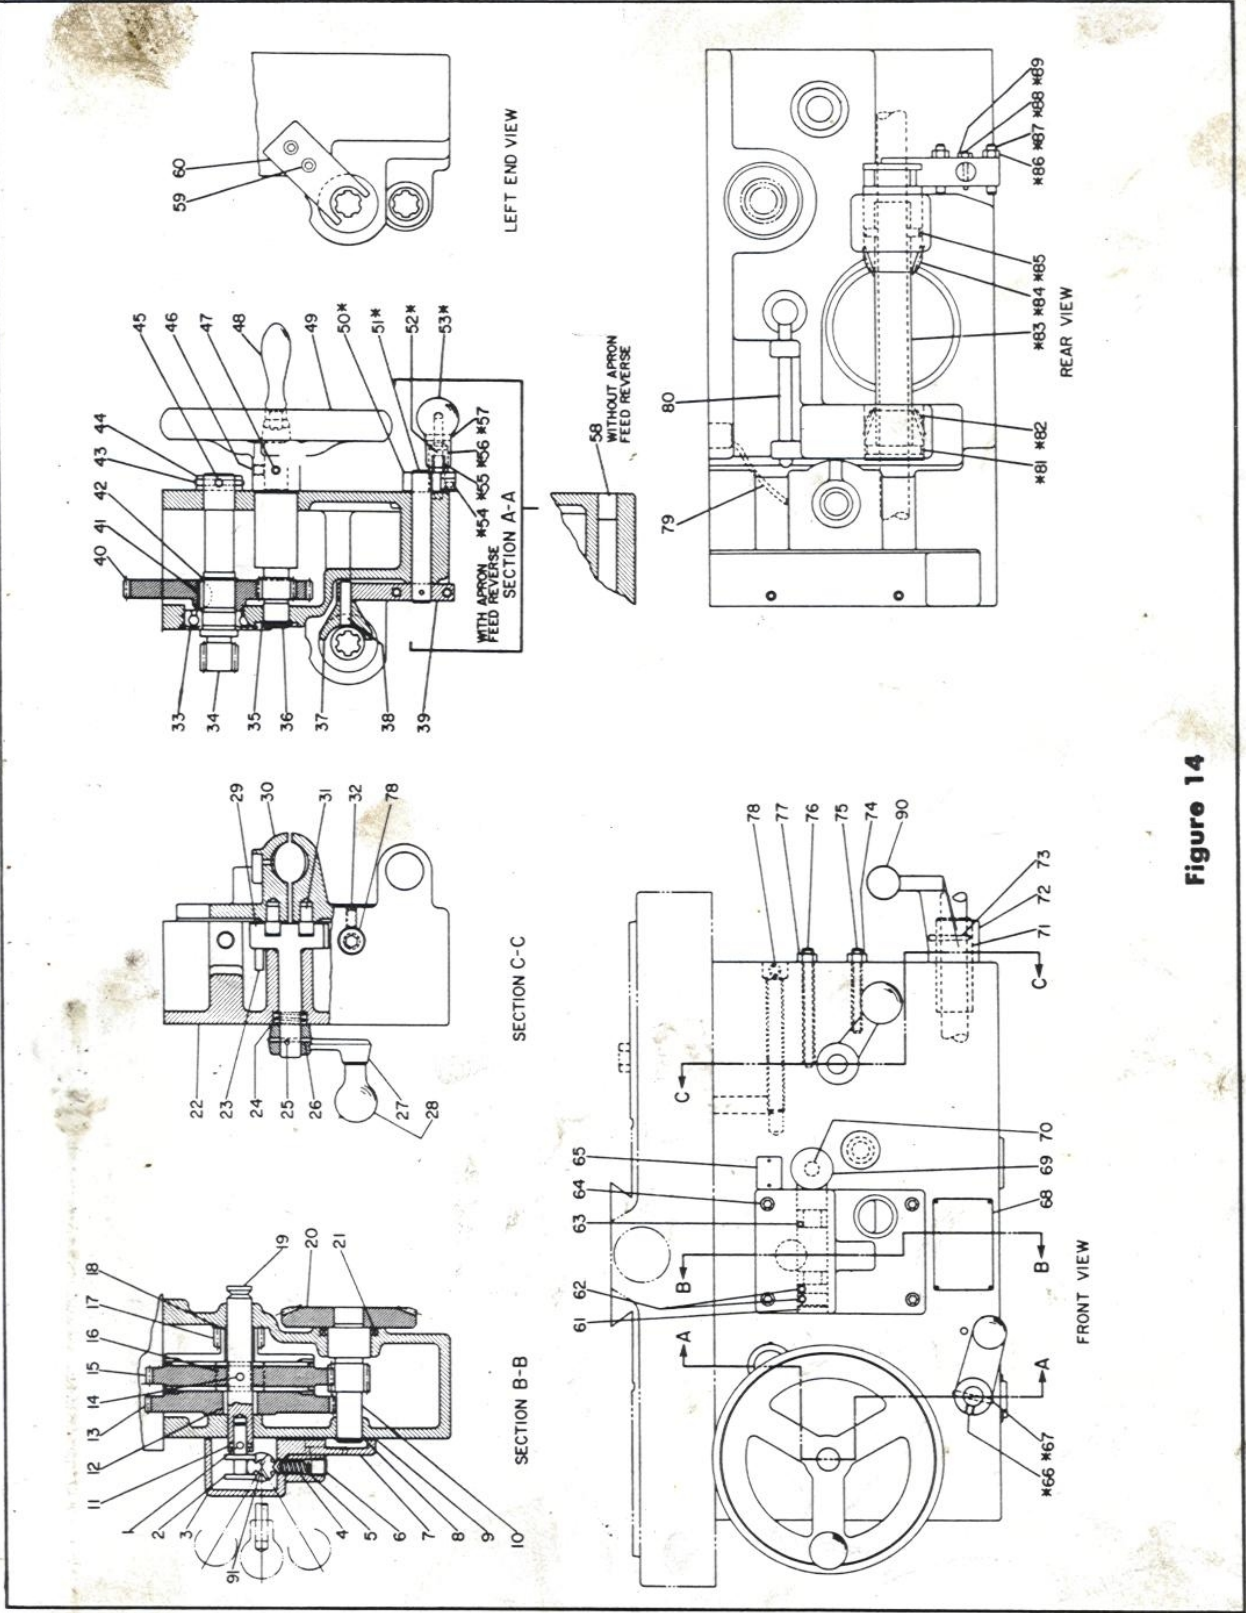

Figure 14
*These parts are for 15" machines only. See Figure 14 for 19".